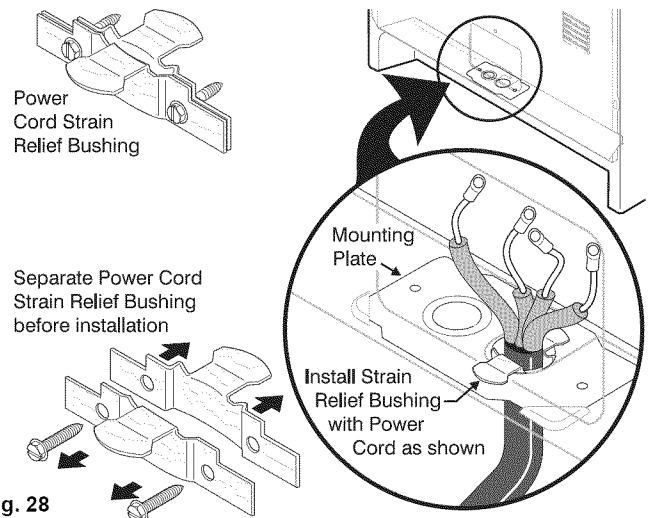

Fig. 28
This appliance may be connected by means of a power supply cord. Only a power supply cord kit rated at 125/250 volts minimum, and marked for use with ranges shall be used. See chart (Fig. 28) for cord kit ampere rating information. Cord must have either four (4) or three (3) conductors (See Fig. 24). Terminals on end of wires must be either closed loop or open-end spade lugs with upturned ends. Cord must have strain relief clamp. See Step B in Installation Steps for 4 or 3 - Wire connections.
1. Follow the manufacturer's installation instructions supplied with the strain relief and install (See Fig. 28).